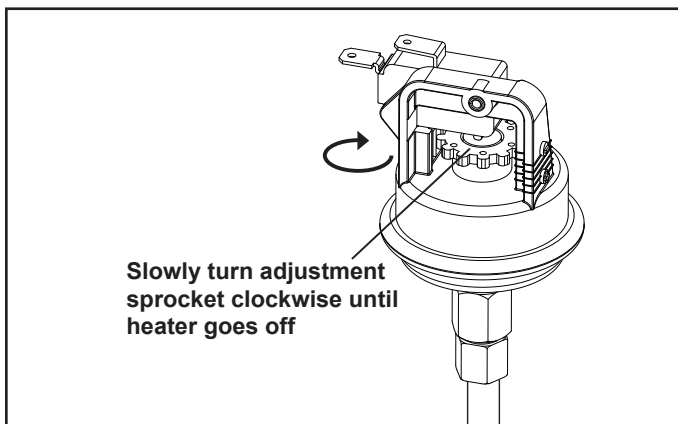

Figure 16. Adjust Pressure Switch
5. With your fingers, turn the adjustment sprocket very slowly clockwise until the heater goes off. See “Figure 16. Adjust Pressure Switch” on page 19